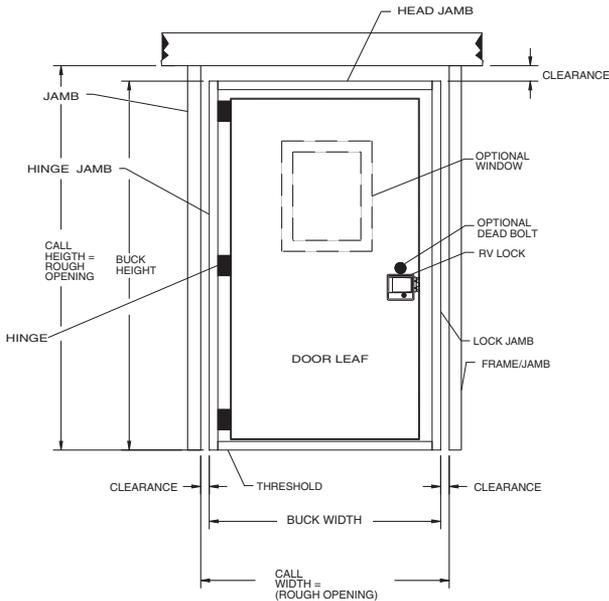

Figure 3
2. Make certain the rough opening (referred to as "R.O." in the remainder of the document) is correctly sized and constructed either for a square corner door or a radius corner door. The R.O. equals the door call size in width and height (example: a 30 x 70 call size = 30" wide x 70" high R.O) unless otherwise noted in the sales literature. For specific door data in Figure 3, see the table on page 9. If applicable, the radius ("R") of the door is specific to the system. The R.O. sill must be square to the floor within $\frac{1}{8}$ " across its width. If the R.O. sill is out of square by a greater amount, it may not be possible to shim and square the door in the opening.
Door Terminology - Become familiar with the terminology used throughout these instructions by studying Figure 3.